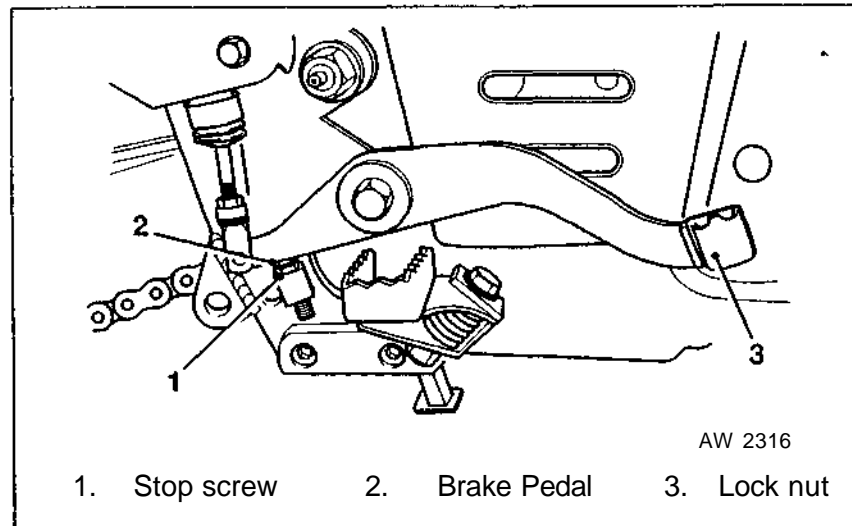

Fig 12.2 Rear Brake Pedal Height Adjustment
- (1) Fig 12.2 refers. Loosen lock nut (3) and adjust stop screw (1) until brake pedal (2) is at desired height. Tighten locknut (3).